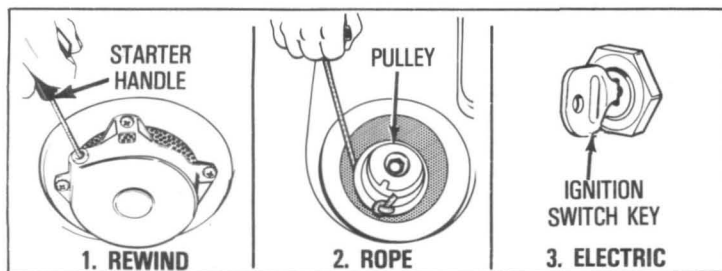

Figure 2
#### 1. REWIND STARTER (see Figures 2 and 3)
A. Grasp STARTER HANDLE (see Figure 2) and pull rope out, slowly, until it pulls harder due to engine compression. Let rope rewind slowly.
#### 2. ROPE STARTER (see Figure 2)
#### 3. ELECTRIC STARTER — 12 VOLT D.C. (see Figures 2 and 3)
A. Press starter button or turn IGNITION SWITCH KEY (see Figure 2) per equipment manufacturer's instructions to activate starter motor and crank engine.
### 1. REWIND STARTER (see Figures 2 and 3)
- Grasp STARTER HANDLE (see Figure 2) and pull rope out, slowly, until it pulls harder due to engine compression. Let rope rewind slowly.
## 2. ROPE STARTER (see Figure 2)
## 3. ELECTRIC STARTER — 12 VOLT D.C. (see Figures 2 and 3)
- Press starter button or turn IGNITION SWITCH KEY (see Figure 2) per equipment manufacturer's instructions to activate starter motor and crank engine.